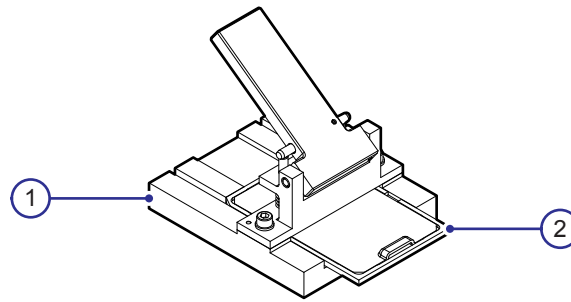

Figure 1.3 The Film perforator with a film cassette
The Film perforator (1), see Figure 1.3, is used for making positioning holes in the film. The holes make it possible to correctly position the film in the Dosimetry phantom.